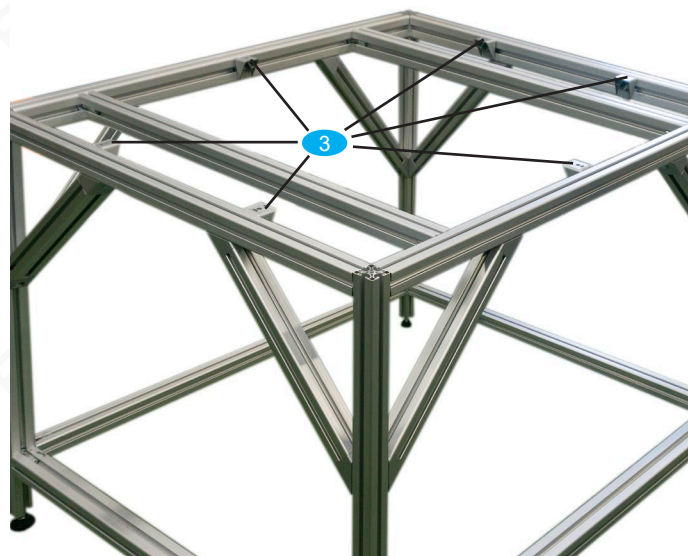

Bild 10: Position of the support angles
- Attach one of the brackets to each of the positions shown in Fig. 10 using an M8x16 screw **5** and an M8 slot nut **4**. If necessary, align the position with the mounting holes in the base plate.